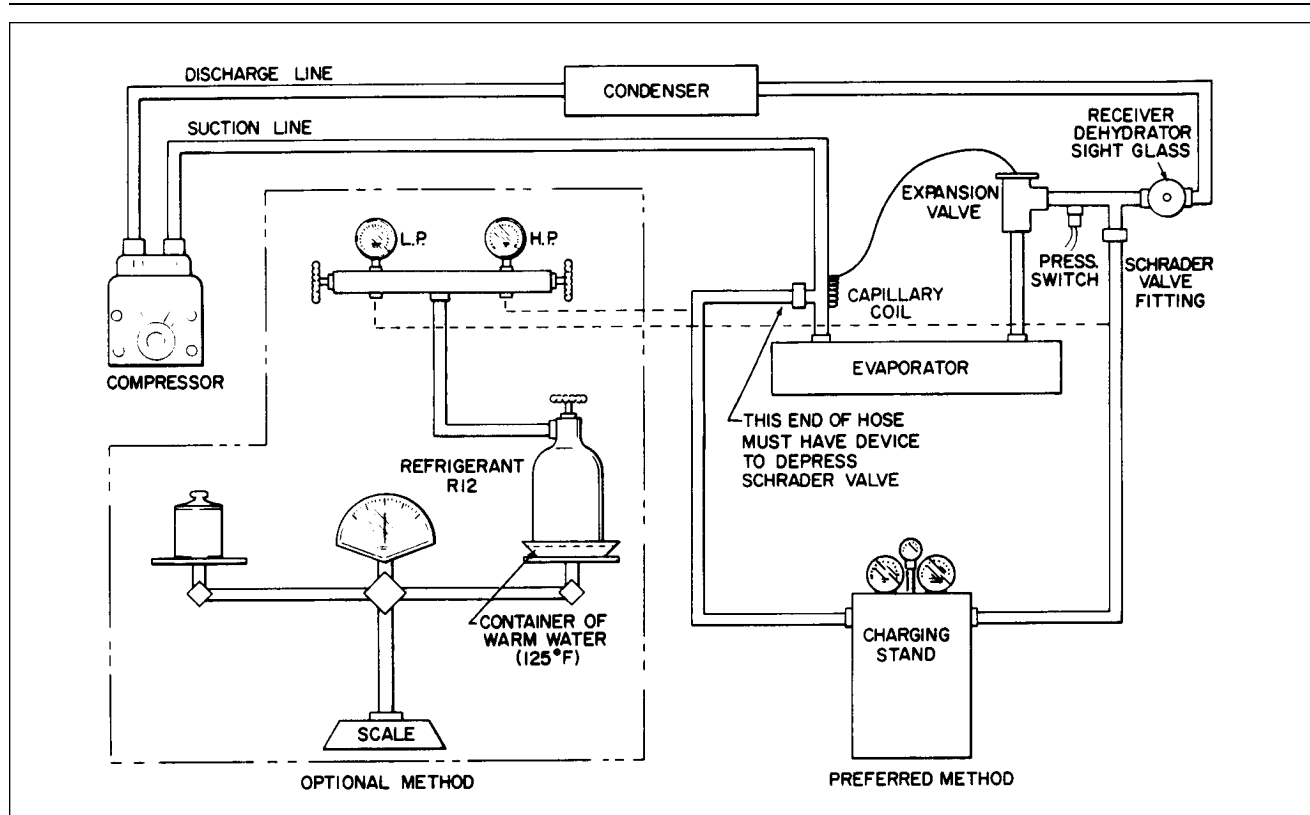

Figure 14-8. Charging Hookup
- a. With the system discharged and evacuated, proceed to hook-up the charging stand. (Refer to Figure 14-8.)
- With the system evacuated as outlined in paragraph 14-13, connect the refrigerant charging hose to the manifold (refer to Figure 14-8) and purge the charging hose of air.
- b. Connect a charging hose to a refrigerant cylinder and also to the Schrader valve fitting on the suction line. (Refer to Figure 14-8.)